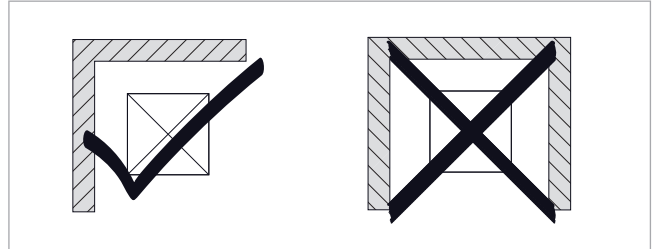

Fig. 3: Installation conditions near walls
- Do not install the heating pump in structures that are closed on three sides. See → *fig. 3*